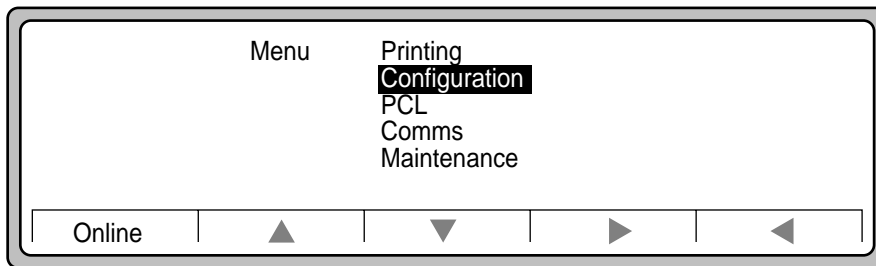

Figure 3-26 Configuration Menu
2. Press ▼ to move to Configuration (Figure 3-26).
- Press ▼ to move to traylock (Figure 3-26).